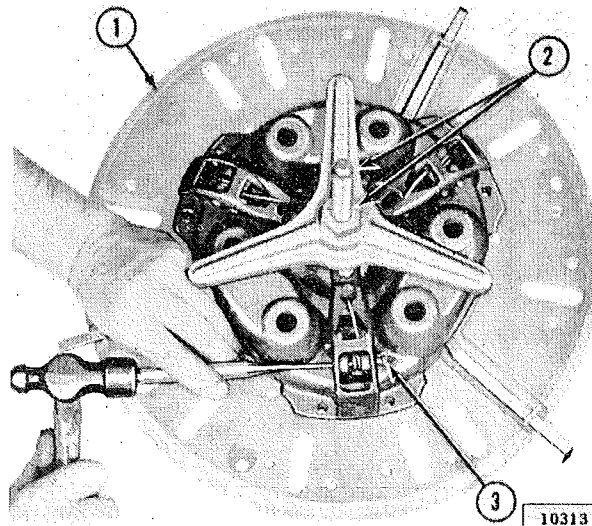

FIG. 101—DISASSEMBLING CLUTCH
- c. Remove retainer ring from outer pin on each lever. Drive out the outer pins only as shown in Fig. 101.